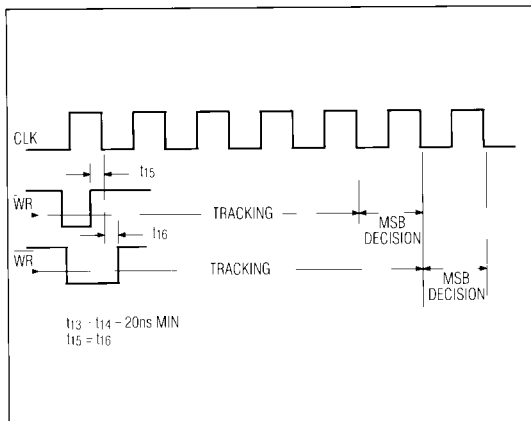

Figure 7. Width of Tracking Interval as a Function of  $\overline{\text{WR}}$  Rising Edge Timing with Respect to CLK Falling Edge
**Note 9:** See Figure 7.
A new conversion is initiated by bringing WR low, with CS low. This starts a track acquisition sequence. In this state, the T/H goes into track mode. Capacitor CAZ charges to the analog input voltage minus the input offset voltage of the comparator. Note: when WR is low (with CS low), the MAX182 is in track mode. When WR goes high, tracking time is extended by another 4 to 5 clock periods (4 clock periods beginning with the first falling clock edge following the rising edge of WR). 16 to 17 clock periods are required for each conversion (Figure 7).